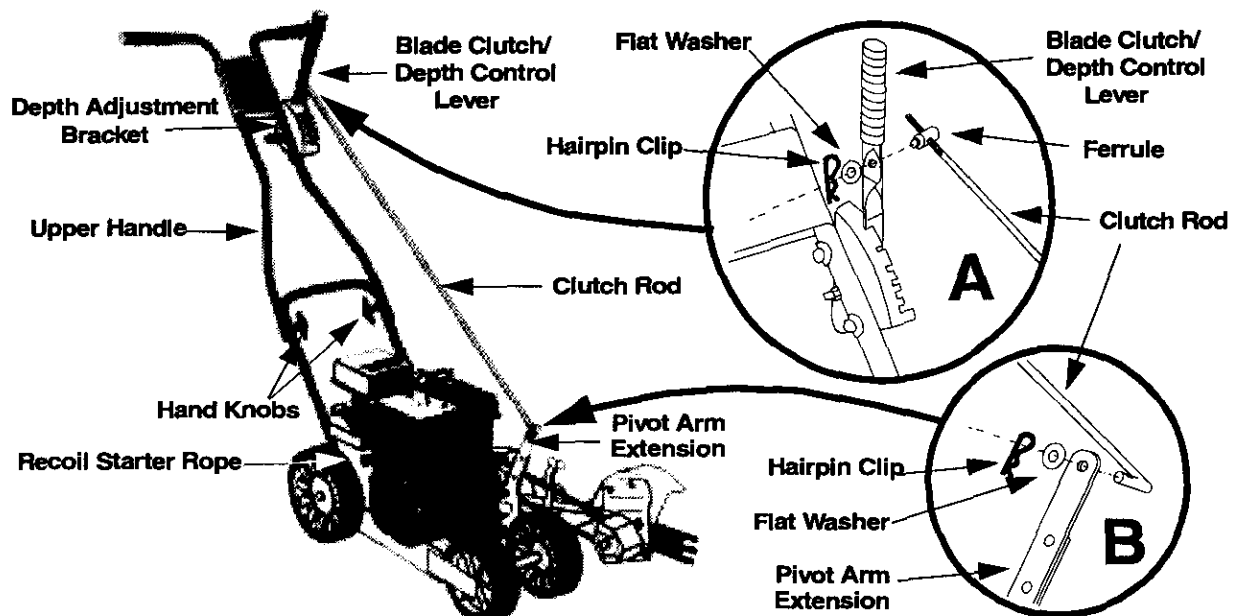

Figure 1
1. Unfold the edger upper handle and tighten the two hand knobs. See Figure 1.
2. Thread the ferrule onto the threaded end of clutch rod then insert the ferrule into the hole on the blade clutch/depth control lever. Affix with flat washer and hairpin clip provided in hardware pack. See Figure 1, Inset A.
3. Insert opposite end of clutch rod into the hole in the pivot arm extension. Affix with flat washer and hairpin clip provided. See Figure 1, Inset B.